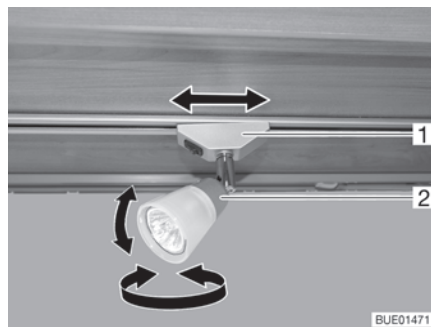

Fig. 25 Spotlight
- Turn housing (Fig. 25,2) of the spotlight to the desired direction. The housing can be turned in following directions:
- Turn holder (Fig. 25,1) through approx. 45°.
- Turn holder (Fig. 25,1) through 90°.